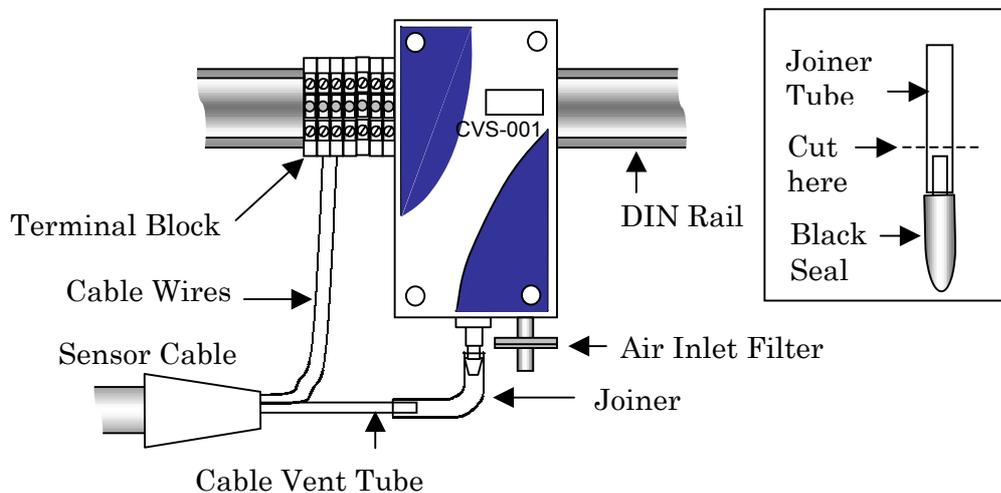

Figure 1. Single Installation, (Suggestion Only)
Remove the seal by cutting the end of the joiner tube with a sharp knife prior to connection. See inset, figure 1.
Figure 1 shows one arrangement possible for fitting CVS-001 to the sensor. A single CVS-001 is designed to handle sensor cable lengths up to **70 metres**. Multiple units may be connected together to increase the capacity.
1. Remove joiner tube from cable vent tube. See Figure 1.